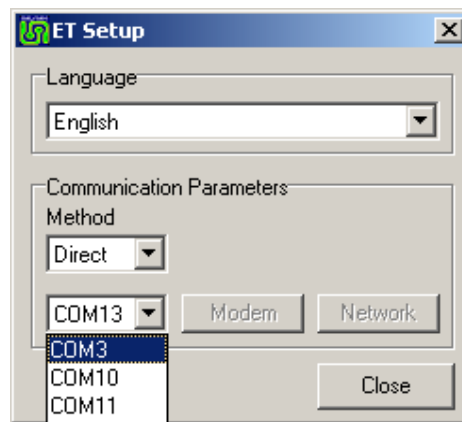

Figure 4. ET Setup window.
2. On the ET Setup window (see **Figure 4** below), in the 'Communications Parameters' area, carry out the following: